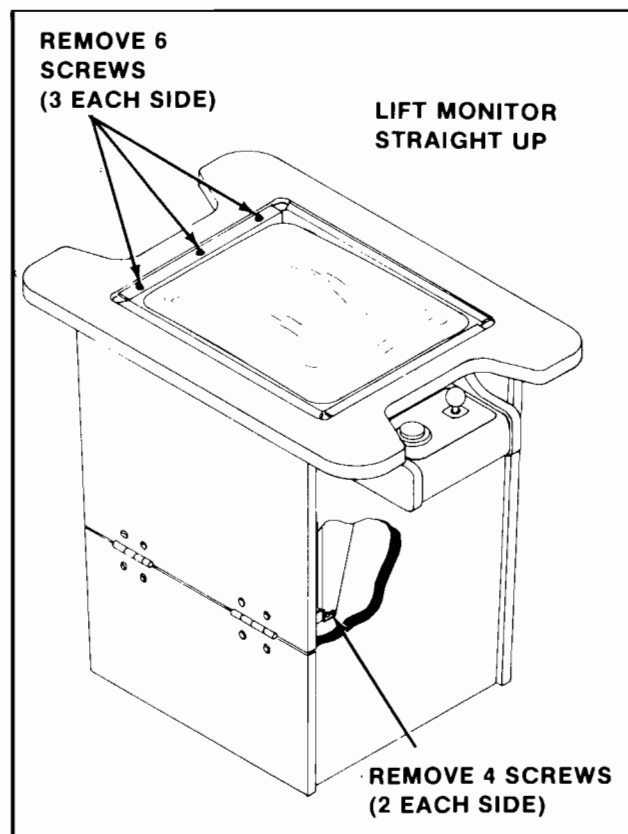

Figure 4-9 Removing Monitor — Cocktail
**2. COCKTAIL TABLE MODEL:** See Figure 4-9.
- Remove the screws holding the T.V. monitor chassis to the "L" brackets by the door hinge(s). See Figure 4-9.
- Remove the screws which secure the T.V. monitor mounting brackets to the edges of the slot cut in the table top. See Figure 4-9.